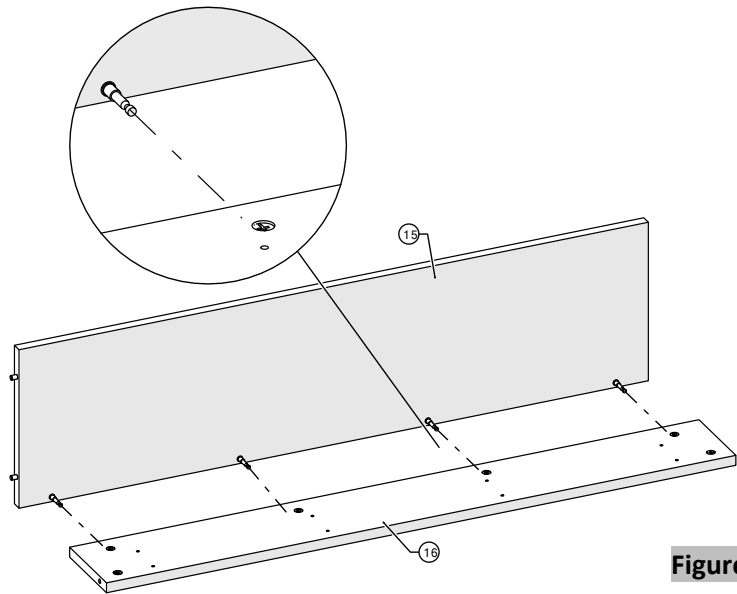

Figure 19
- 25.** Connect the waterfall false back to the waterfall false support and press tightly together by inserting the wooden dowels into the 8mm holes of the waterfall false support (Figure 19).